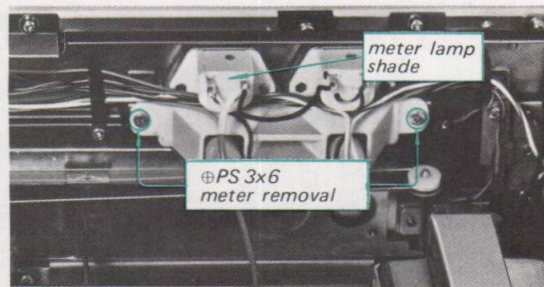

Fig. 2-11. Meter replacement
1. Remove the two screws securing the meter lamp shade as shown in Fig. 2-11. This frees the shade and the meters.